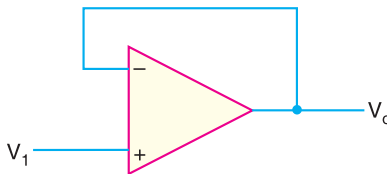

Fig. 25.107
14. What output voltage results in the circuit of Fig. 25.107 for $V_1 = +0.5 \text{ V}$?